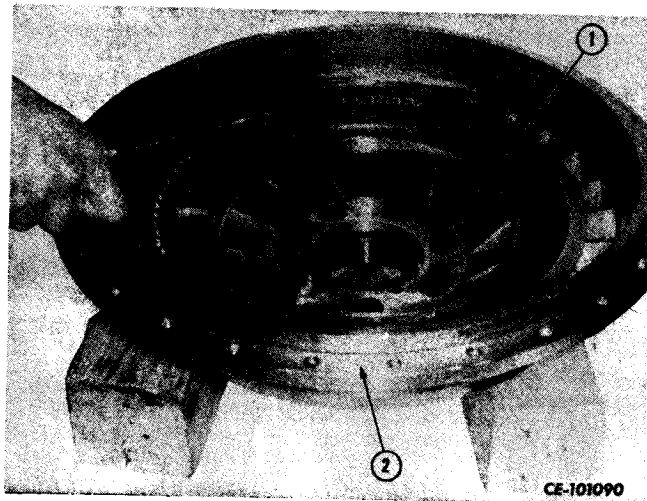

Figure 3-27
Remove cap screws (1, Fig. 3-27) that retain accessory drive gear to impeller (2). Tap hub bearing and gear from impeller.